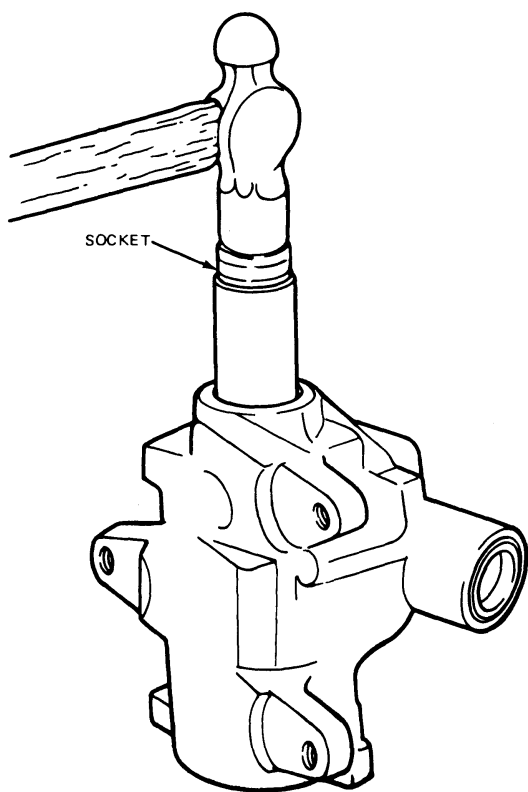

FIG. 13 Installing Wormshaft Seal
3. To replace the wormshaft seal, use a suitable size socket to avoid damage to the external lip of the seal. Drive seal until it is flush with the housing surface (Fig. 13).